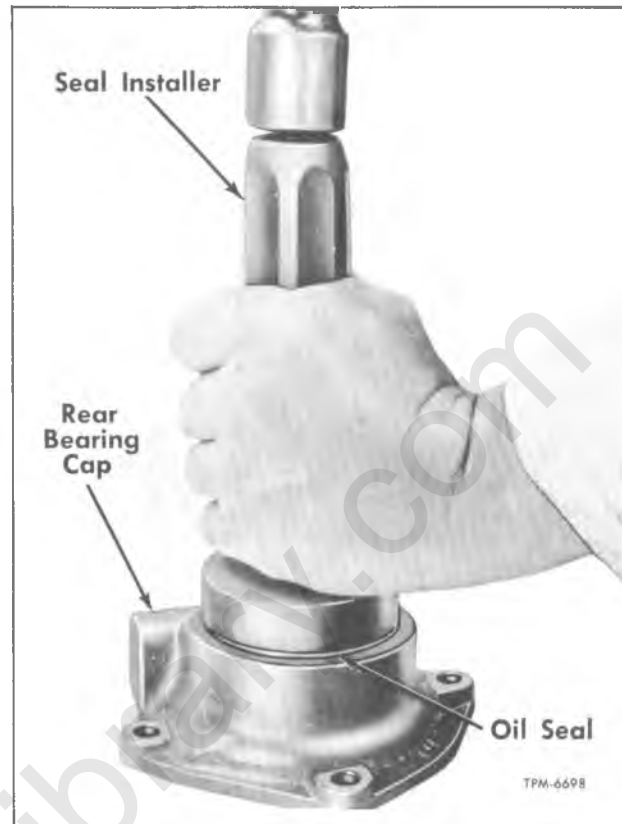

Figure 3—Installing Mainshaft Rear Oil Seal
1. Install new oil seal in mainshaft rear bearing cap using a suitable seal installer as shown in figure 3, with lip of seal pointing toward transmission case.